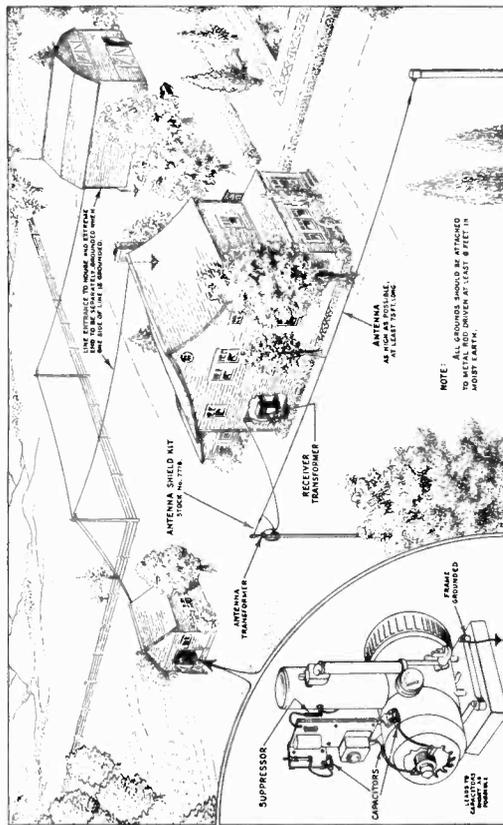

Figure 4—Typical Installation showing suppression equipment and proper antenna system
I. F. Tuning Adjustments—Two transformers comprising three tuned circuits (the secondary of the second transformer is untuned) are used in the intermediate amplifier. These are tuned to 175 K. C. and the adjustment screws are accessible as shown in Figure 4. Proceed as follows:
Figure 4 shows a typical installation of the suppression equipment. This equipment is connected as follows: